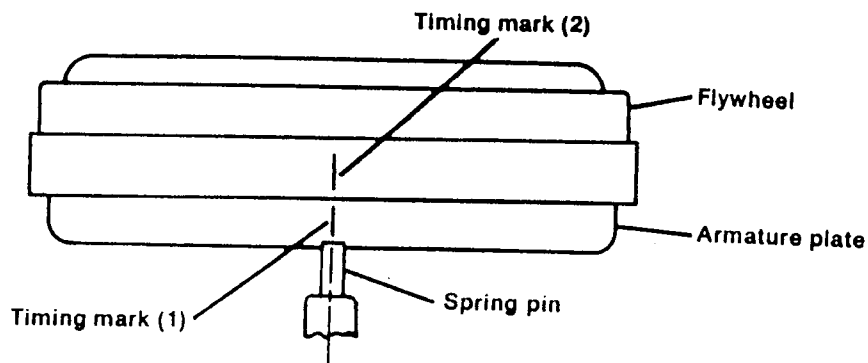

Figure 8-1. Ignition Timing Marks
2. Aim the timing light at timing mark 1 shown in figure 8-1.
3. Start the engine and "rev" it at 1/2 to 3/4 throttle in short bursts. When the rpm of the engine reaches 1/2 to 3/4 throttle, timing mark 2 on the flywheel should align with timing mark 1 on the armature plate. This is fully advanced timing of 22° BTDC. See figure 8-1.